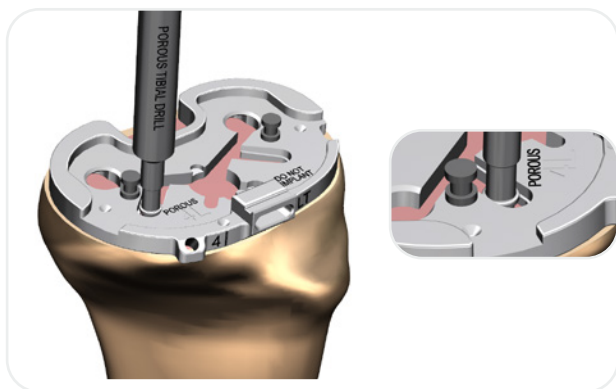

Figure 39
1. Use the porous tibia drill to prepare for the two anterior pegs and bridges of the porous tibia keel. Start with the drill anteriorly on either the medial or lateral peg (**Figure 39**) and move the drill posterior removing bone to accommodate the bridges. There is a positive stop shoulder that has been designed into the trial. Ensure drill is contacting shoulder to ensure proper depth in order to seat the implant. Repeat procedure for the adjacent side bridge.